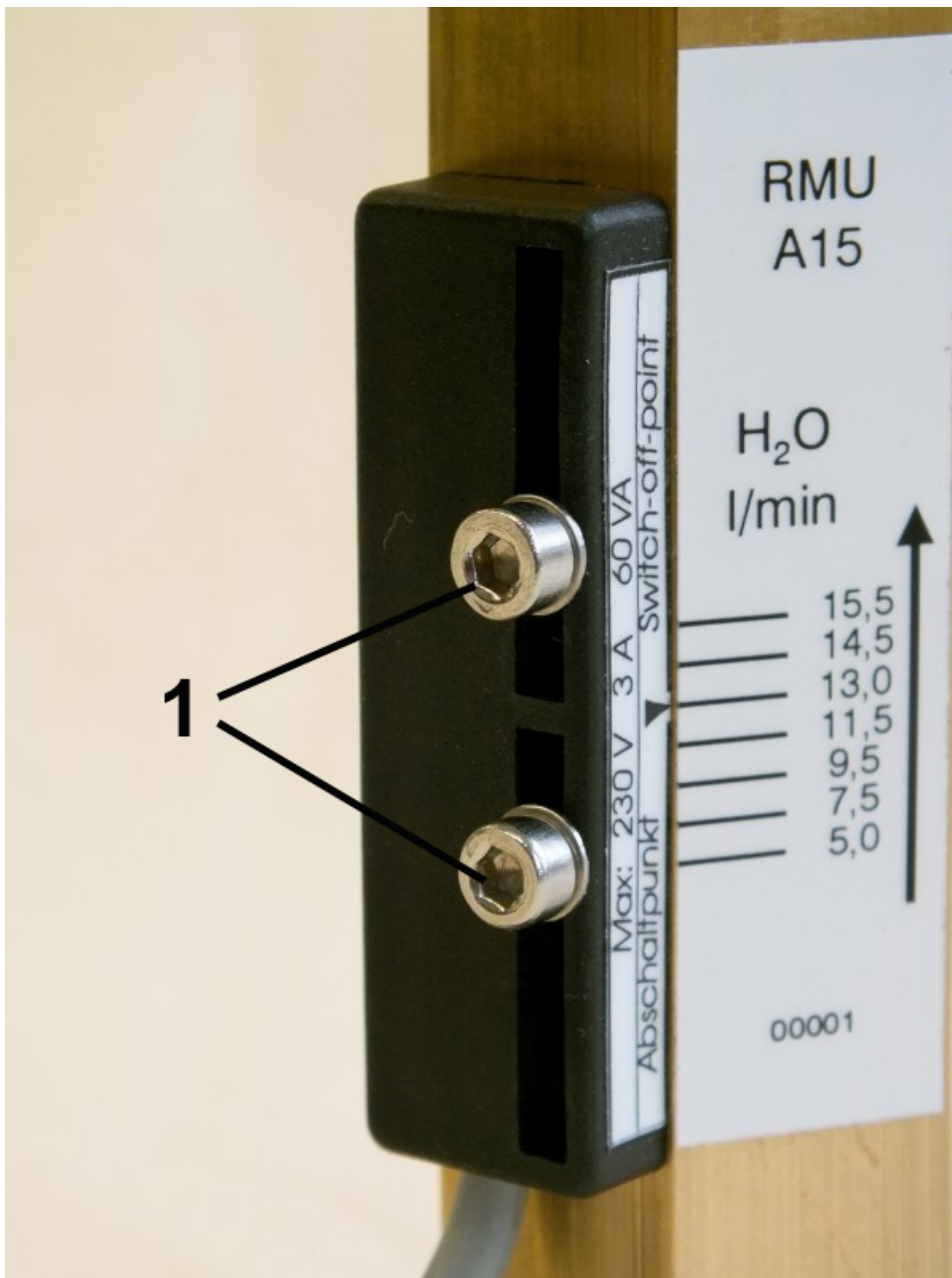

Fig. 23: Loosen set screws (example switch point adjustment scale)
1. Loosen the set screws of the switch contact (Fig. 23/1) using a hex screwdriver.
3. Tighten the set screws of the switch contact (Fig. 23/1) using a hex screwdriver. When doing so, observe the correct tightening torque of the screws.